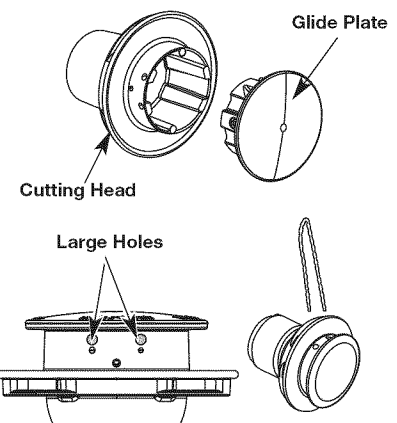

Fig. 27
4. Insert both ends of the line through the large holes in the side of the cutting head (Fig. 27).